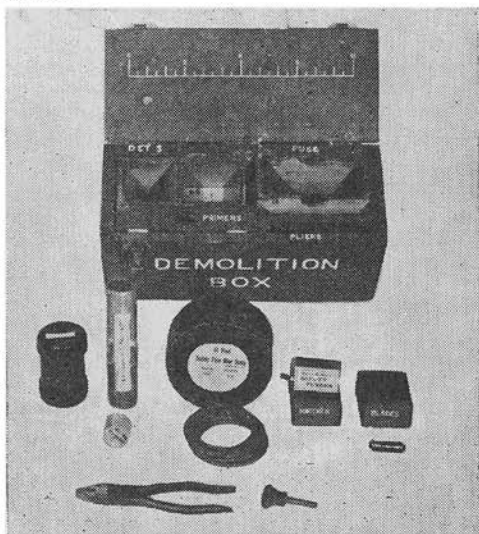

Fig. 10.—The demolition box.
4. The stores required should be carried in a demolition box which can be made by unit labour (see Fig. 10). The following items are required:—